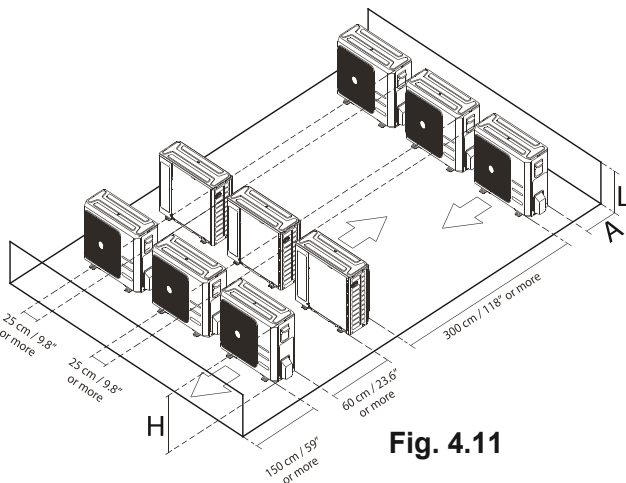

**Fig. 4.10**
**NOTE:** The minimum distance between the outdoor unit and walls described in the installation guide does not apply to airtight rooms. Be sure to keep the unit unobstructed in at least two of the three directions (M, N, P). (See Fig. 4.10)